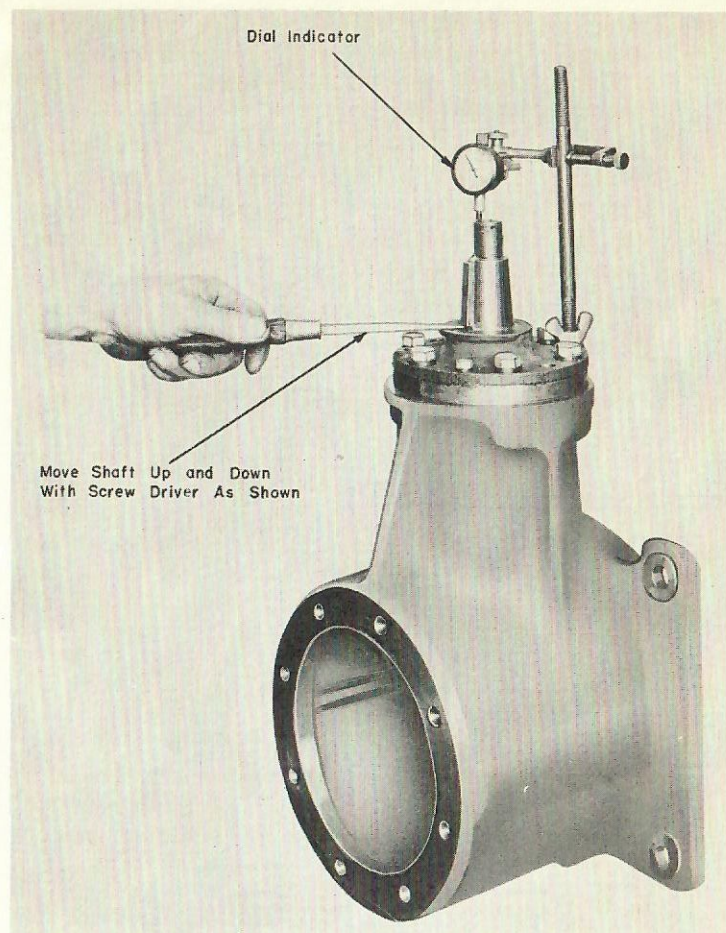

Fig. 4-12
10. If new bearings are assembled on horizontal shaft, adjust shim pack to produce end play of 0.003 to 0.005 inch for shaft. See Fig. 4-12. Do not disturb shim pack between sleeve and gear box.
9. If new bearings are assembled on shaft, adjust shim pack to produce end play of 0.003 to 0.005 inch for shaft. See Fig. 4-12. Do not disturb shim pack between sleeve and gear box.